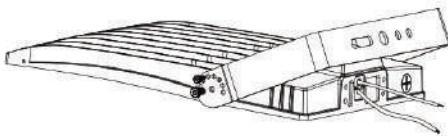
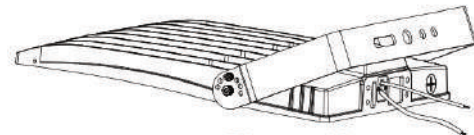

Figure 11
Figure 12
Step 1: First install two big screws. (Figure 11) Step 2: Install two small screws. (Figure 12)